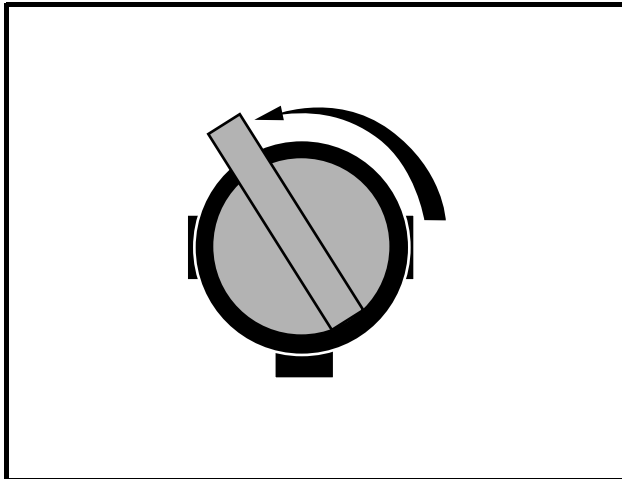
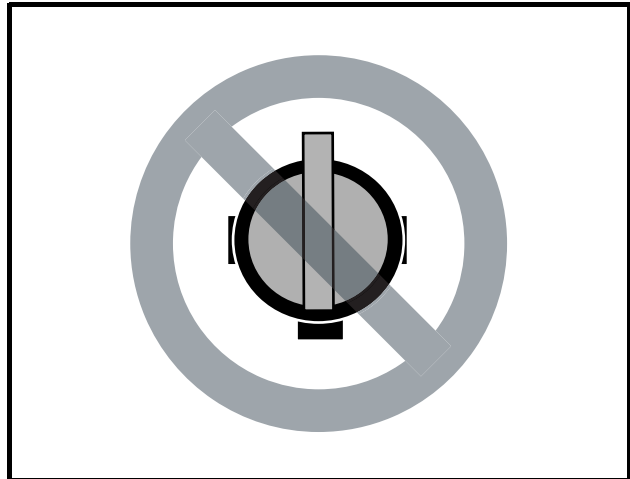

Figure 17 Fuel Shut-off Valve – Open (ON) Position
Figure 18 Fuel Shut-off Valve – Partially Closed Position
3. Completely open the fuel shut-off valve (**Figure 17**). Make sure the valve is fully open. A partially closed fuel shut-off valve (**Figure 18**) combined with the use of the choke can result in a fouled spark plug and engine failure.